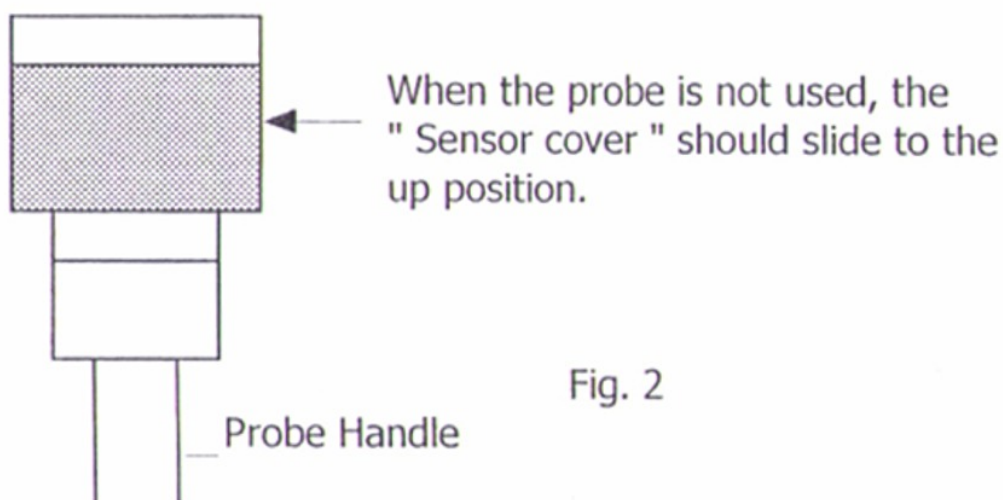

Fig. 2
- a. When slide the sensor cover of " Sensing Head " (3-20, Fig. 1) to the up position to let the air velocity sensor isolated from the environment (refer Fig. 2).